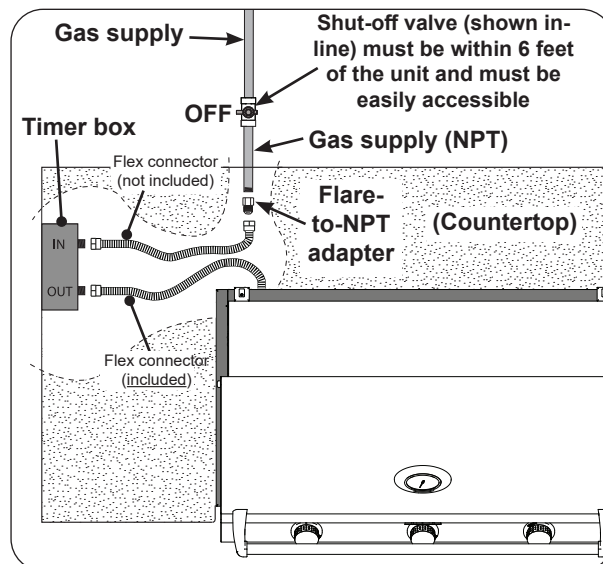

Fig. 26-2 Household LP & Nat. gas diagram
3. Using two wrenches, connect the flex connector coming from the grill to the 1/2" **flare adapter labeled OUT**. See Fig. 26-2. Ensure the connection is tightened securely.
4. **Connect gas source to IN:** Using two wrenches, connect a flex connector (not included) to the 1/2" **flare adapter labeled IN**. See Fig. 26-2. Ensure the connection is tightened securely.
5. Route the flex connector coming from the timer box to the gas supply stub (see Fig. 26-2).